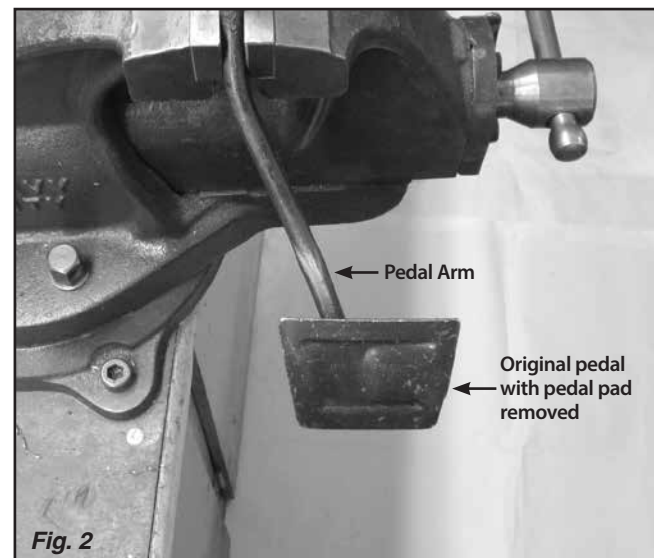

Fig. 2
Step 1: Remove the stock rubber cover from the original pedal. Clean the original pedal to remove any rubber or glue residue. **Fig. 2**